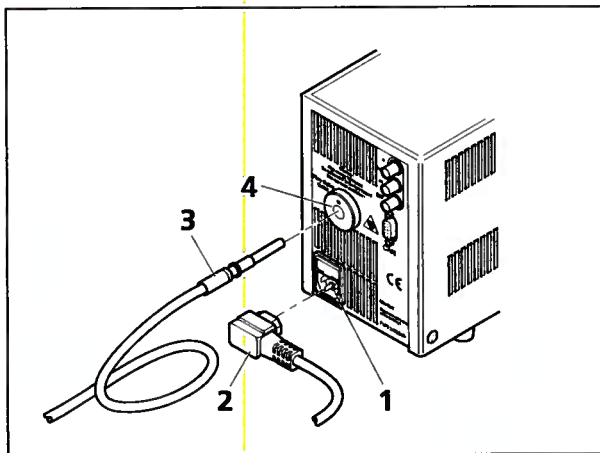
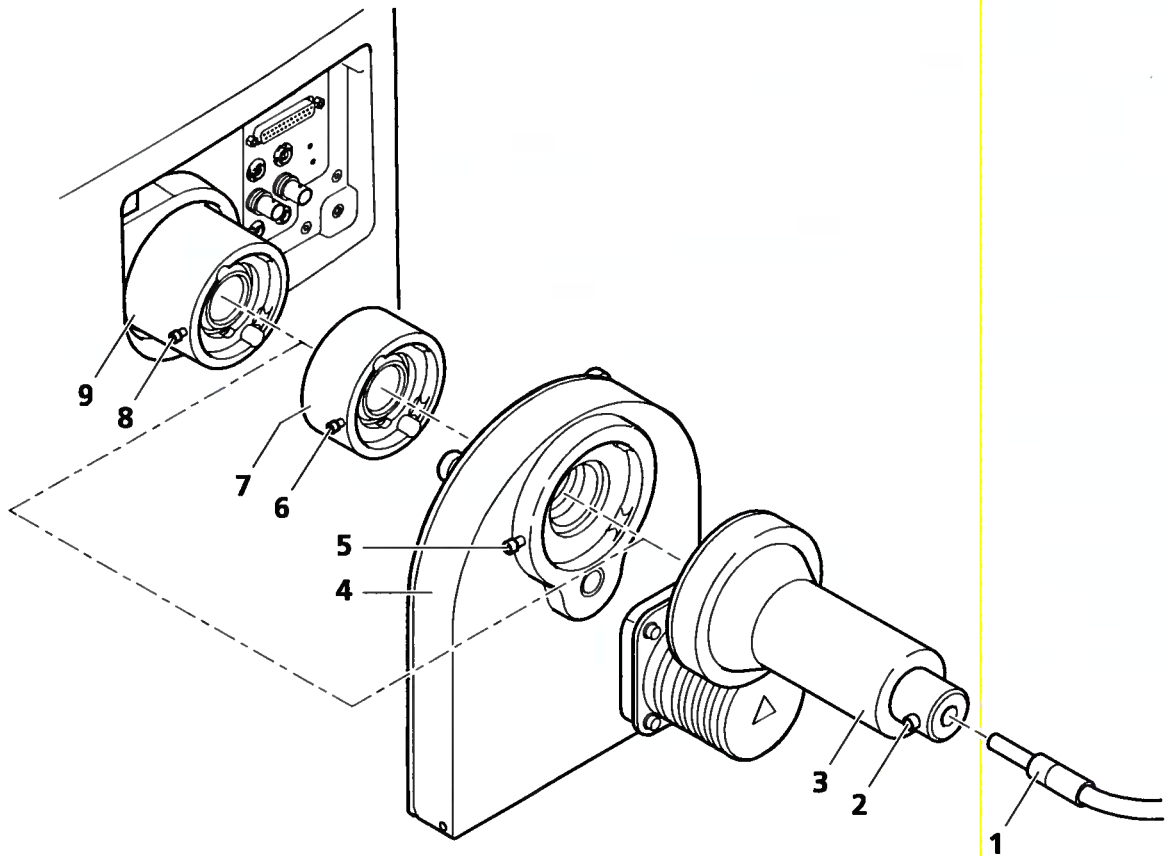

Fig. 3-10 Plug-in connections on the HXP 120 V illuminator
Fig. 3-11 Mounting the external filter wheel and connecting the HXP 120 V with illumination adapter
- For this purpose plug one end of the light guide into the white light source (Fig. 3-10/3 and 4) and the other end into the port on the illuminator module (Fig. 3-8/3) and secure it with the union nut.
- Connect the white light source to a mains socket using power cable (Fig. 3-10/2).
Its power input (Fig. 3-10/1) is located on the rear side of the illuminator.
- Set the illumination adapter (Fig. 3-11/3) on the connecting socket (Fig. 3-11/7) of the Axio Scan.Z1 and secure with a clamp screw (Fig. 3-11/6).
- One end of the light guide (Fig. 3-10/3) is inserted into the rear side port (Fig. 3-10/4) of the illuminator, the other end (Fig. 3-11/1) into the illumination adapter (Fig. 3-11/3) and secured with the clamp screw wrench size 3 mm (Fig. 3-11/2).
- Remove the illumination adapter (Fig. 3-11/3) if necessary.
- Attach the short intermediate adapter (Fig. 3-11/7) with the dovetail mount to the connecting socket (Fig. 3-11/9) of the device and secure with the clamp screw (Fig. 3-11/8, Allen key 3 mm).
- Attach the filter wheel (Fig. 3-11/4) with the dovetail mount to the short intermediate adapter (Fig. 3-11/7) and secure with the clamp screw (Fig. 3-11/6, Allen key 3 mm).
- Set the illumination adapter (Fig. 3-11/3) on the filter wheel (Fig. 3-11/4) and secure with a clamp screw (Fig. 3-11/5).